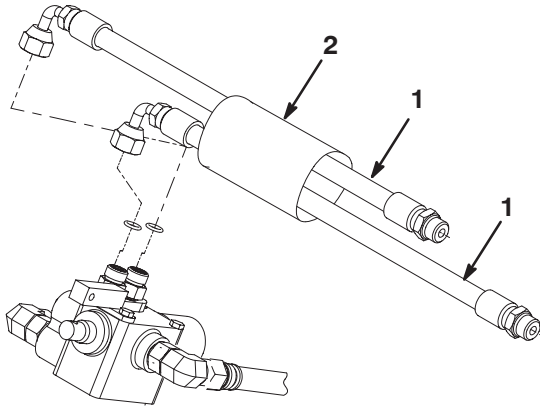

Figure 5
9. Connect the (2) hydraulic hose assemblies to the fittings on the top of the control valve (Fig. 5). Make sure the O-rings are in position.
1. Hydraulic hose (2)
10. Install the protective sleeve over the hoses (Fig. 5). The remainder of the hose installation will be completed after the hopper frame is installed.